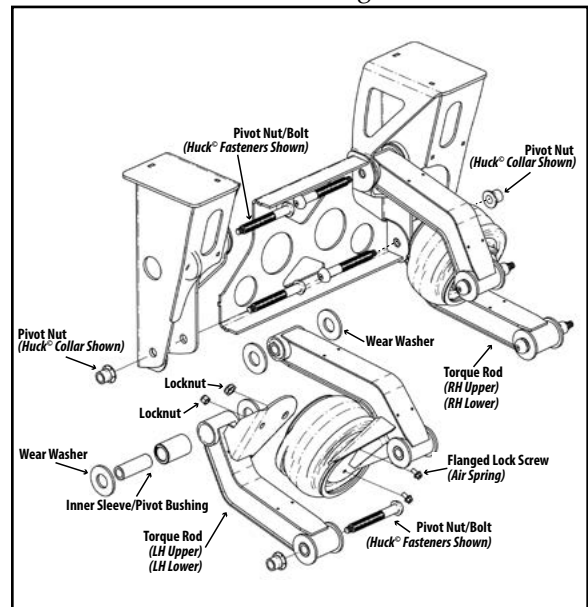

Figure 1.
6. Assemble the pivot connection with one wear washer on each side of the bushing (Figure 1). The inner sleeve of the bushing must be flush with or extend slightly past outside of the wear washers after assembly.